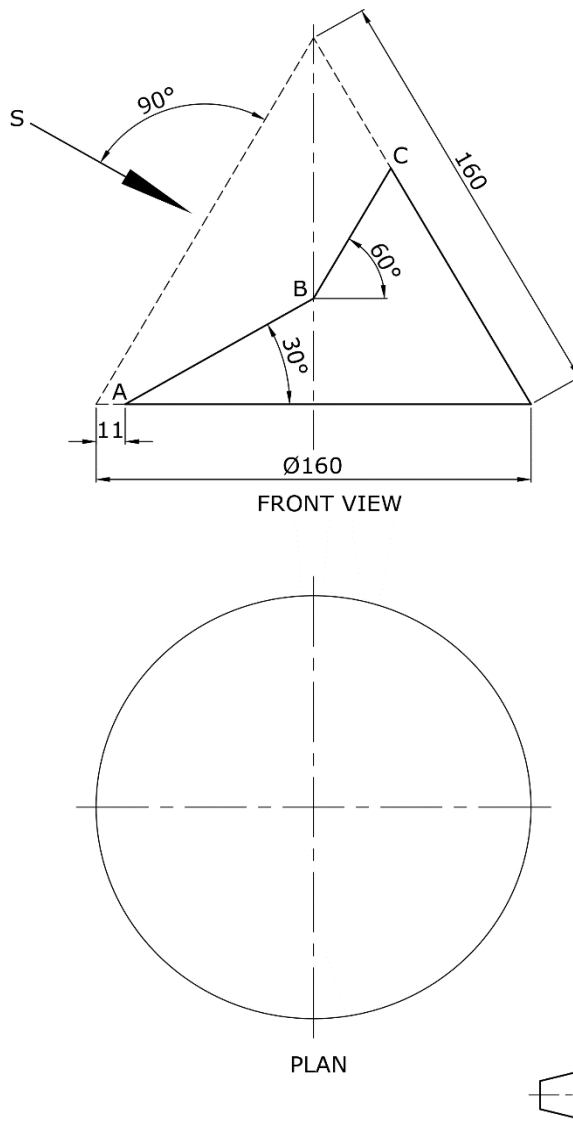

Figure 4b
The equilateral triangle standing on the base in the front view represents a cone. Two section planes AB and BC are drawn on the cone as shown in Figure 4b.
- a) Copy, full size, the given front view and the incomplete plan shown in Figure 4b. (2)
- b) Complete the plan. (2)
- c) Construct an auxiliary plan looking in the direction of arrow S. Show hidden detail. (7)
- d) State the name of the conic section AB and BC. (2)